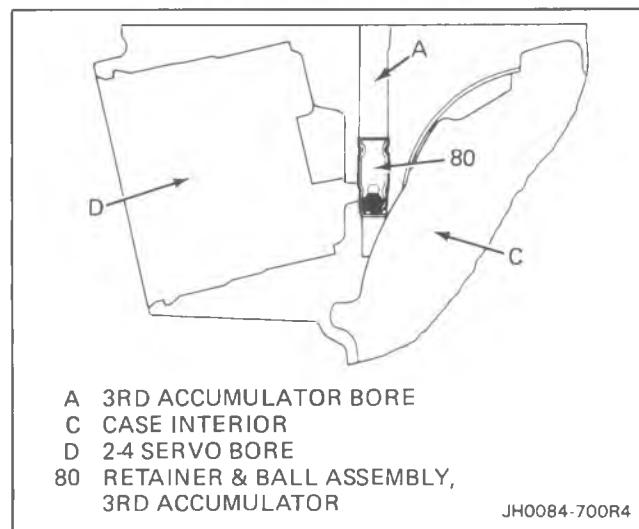

Figure 99 Leak Check - 3rd Accumulator
Third Accumulator Retainer and Ball Assembly (80) (Figure 99)
Important (Figure 99)
Remove or Disconnect (Figure 99 and 100)
Install or Connect (Figure 99 and 100)